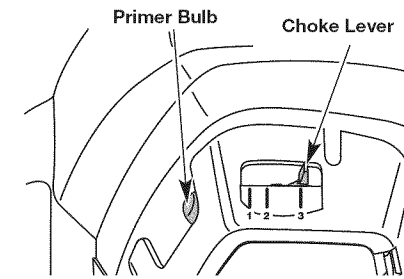
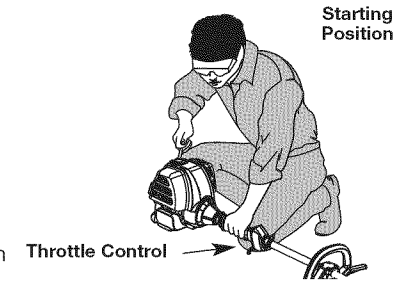

Fig. 11
Fig. 12
**WARNING:** Avoid accidental starting. Make sure to be in the starting position when pulling the starter rope (Fig. 12). To avoid serious injury, the operator and unit must be in a stable position while starting.
3. Fully press and release the primer bulb 10 times, slowly. Some amount of fuel should be visible in the primer bulb and fuel lines (Fig. 11). If fuel cannot be seen in the primer bulb, press and release the bulb until fuel is visible.
4. Place the choke lever in **Position 1** (Fig. 11).
5. Crouch in the starting position (Fig. 12). Press the throttle lockout in and fully squeeze the throttle control lever. Pull the starter rope 5 times.
6. Place the choke lever in **Position 2** (Fig. 11).
9. Continue squeezing the throttle control, move the choke lever to **Position 3** (Fig. 11) and continue warming the engine for an additional 60 seconds. The unit may be used during this time.
**IF...** the engine hesitates, return the choke lever to **Position 2** (Fig. 11) and continue warm-up.
5. Crouch in the starting position (Fig. 12). Place the electric starter or power start bit into the back of the unit. Refer to the *Operation section of the Electric Starter or Power Start Bit™* operator's manual.
6. Press the throttle lockout in and fully squeeze the throttle control lever. Press and hold the electric starter or drill ON (I) button for 2 seconds.
7. Place the choke lever in **Position 2** (Fig. 11).
8. While pressing the throttle lockout in and squeezing the throttle control, press and hold the electric starter or drill ON (I) button for 2 second intervals until unit starts.
10. Continue squeezing the throttle control, move the choke lever to **Position 3** (Fig. 11) and run the unit for an additional 60 seconds. The unit may be used during this time.
**IF...** the engine fails to start after a few attempts, place the choke lever in **Position 3** and squeeze the throttle control. Press and hold the electric starter or drill ON (I) button for 2-second intervals until the unit starts.